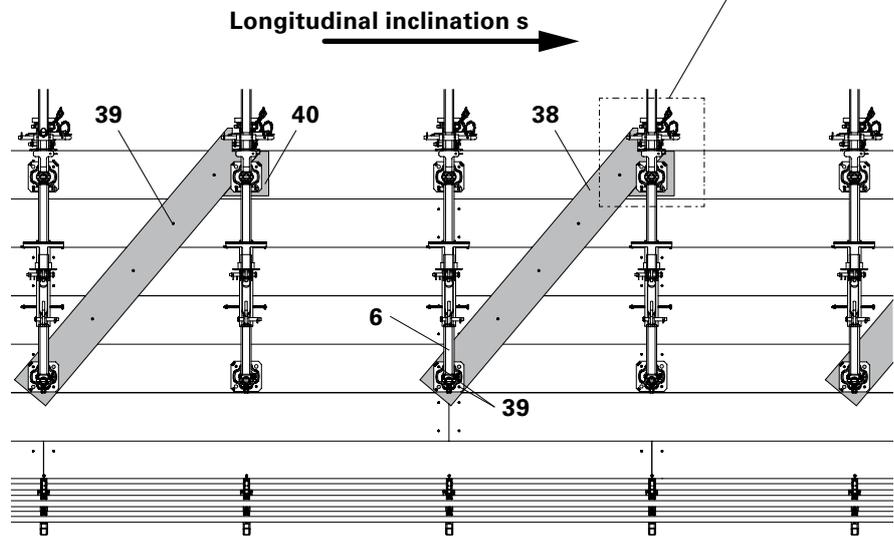

Fig. A8.01
1. Prepare plank 20 x 4 (38) for a force-locked connection.
2. Position plank 20 x 4 (38) diagonally between two Brackets on the decking and fix with Torx 6 x 80 (39).
3. Mount the Height Compensation (40).
4. Fix the Formwork Fixing VGK 2 (5) and Formwork Support VGK (6), see B3.
5. Fix Adjustable Base Plates with two Torx 6 x 80 (39) respectively. (Fig. A8.01)